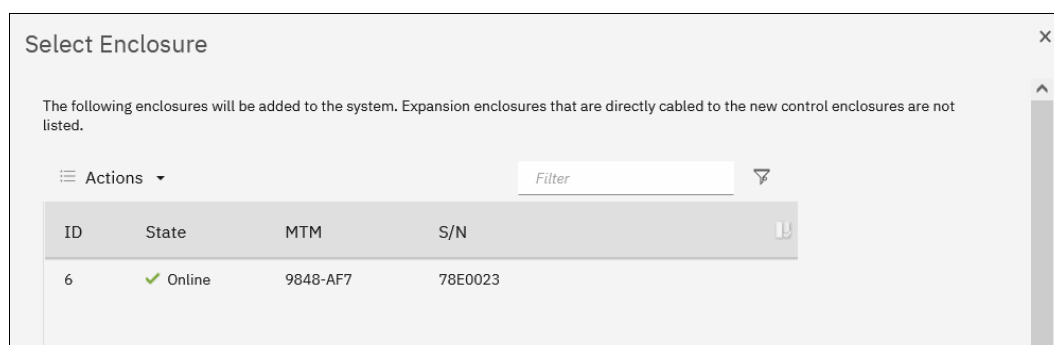

Figure 3-38 Selecting the control enclosure to add
- Click **Add Enclosure**, and a list of available candidate enclosures opens, as shown in Figure 3-38. To light the Identify light-emitting diode (LED) on a selected enclosure, select **Actions** → **Identify**. When the required enclosure (or enclosures) is chosen, click **Next**.